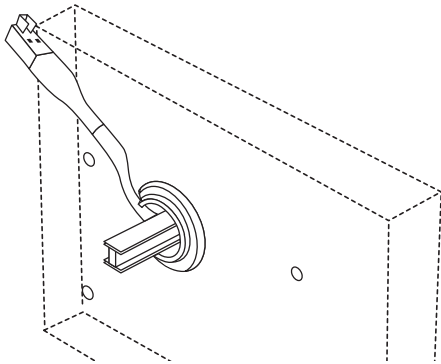
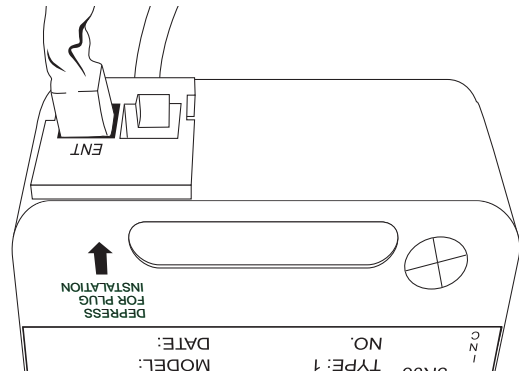

Figure 7
Figure 8
- ⑧ Install the cable clamp over the cable on the inside of the door **with the flat side facing the door**.
- ⑨ Slide down to the hole to protect the cable from rubbing on the edge of the hole.
- ⑩ Gently pull on the cable to assure that there is no excess cable in the hole that would rub on the metal door.
- ⑪ Route the cable on the notch of the cable clamp as shown, see *Figure 7*.
- ⑫ Press the snap connector toward the bottom of the lock.
- ⑬ Carefully insert the entry cable plug into the lock at the “ENT” position, see *Figure 8*.